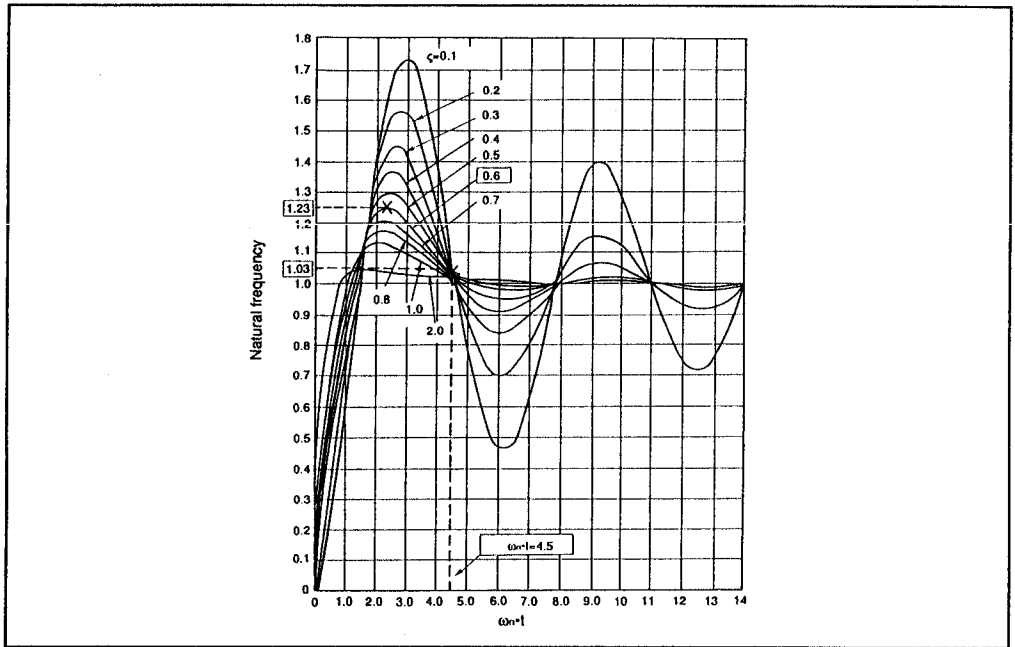

Figure 3-13 Second-Order Step Response
- **Damping Factor ζ :** According to figure 3-13, when frequency overshoot does not exceed 25%, ζ is 0.6.
- **Natural Frequency ω_n :** From the frequency step response shown in figure 3-13, when the frequency difference does not exceed 5%, $\omega_n \cdot t$ is 4.5. t is the pull-in time, and if $t = 10$ (ms), $\omega_n \cdot t$ is expressed as follows: